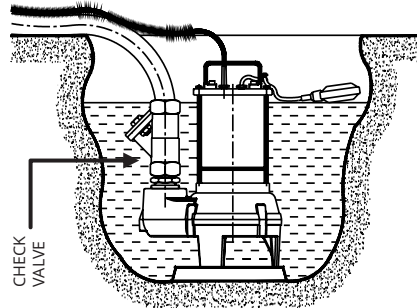

Fig.1
mud, etc., accumulating there, lay a level raised supporting base (Fig.1).
- To avoid the backflow of liquid from the discharge manifold, install a check valve after the pump delivery outlet (Fig. 1).